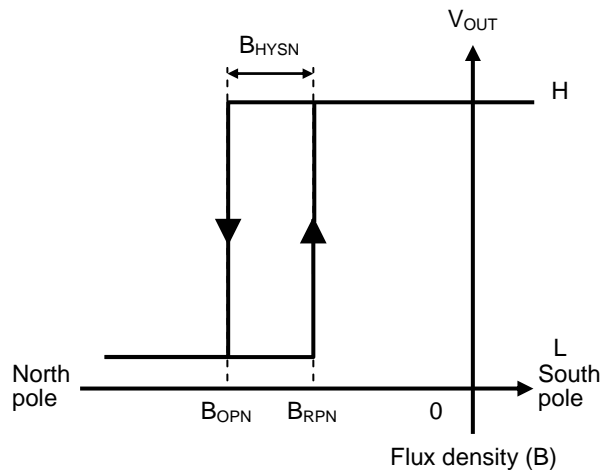

**Figure 17**
**Figure 17** shows the relationship between the magnetic density and  $V_{OUT}$ .